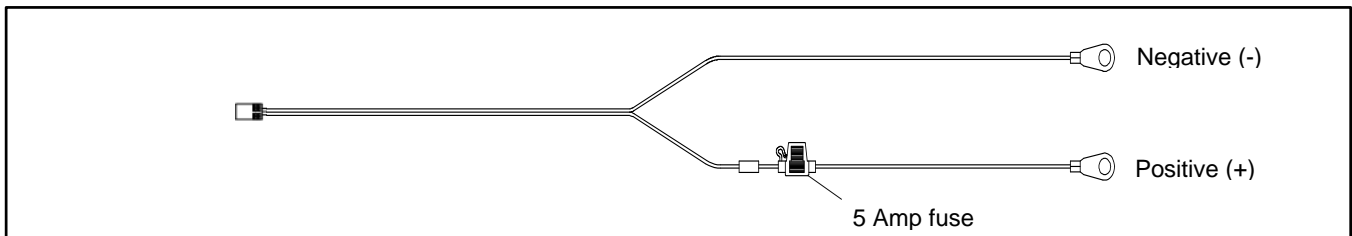

Figure 2 DC Cable GM114538
8. Connect the ring terminals on the DC power harness to the generator set battery cables. Follow the polarity shown in the table below. See Figure 2 for an illustration of the power cable.